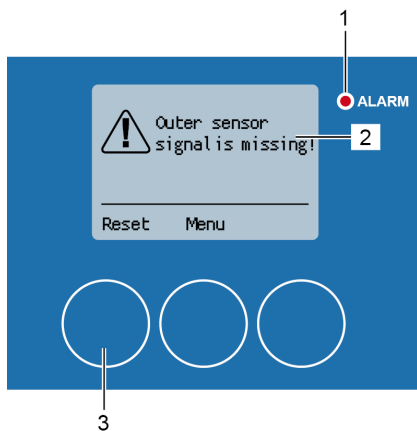

Fig. 196: Outer sensor signal alarm
The alarm message “Outer sensor signal is missing!” (Fig. 196/2) is displayed during the cleaning process if there is a problem with the proximity sensor on the circumference of the rotor. The red alarm LED (Fig. 196/1) lights up.
2. Reset the alarm message with [Reset] (Fig. 196/3).
If the alarm message is reset without first correcting the error, the alarm message appears again. The menu “1 Main menu” can be called up via [Menu] (Fig. 196/4), e.g. to check the signal status of the proximity sensor on the circumference of the rotor chapter 6.5 Status indicators on page 89.